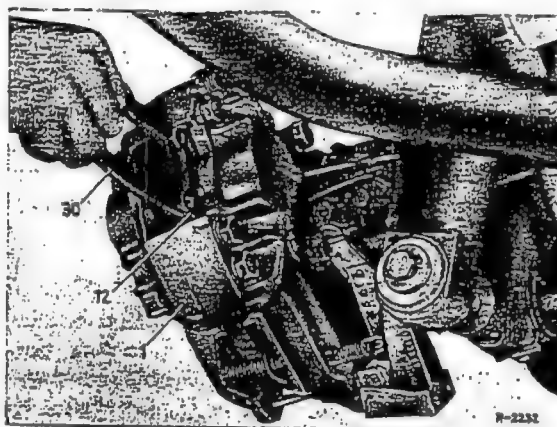

Fig. 42-10/20
4. Use the dismantling tool (30) to pull one friction pad (12) out of the gap of the brake caliper. Clean the guide for the friction pad in the brake caliper with a cylindrical brush (30) (Fig. 42-10/18).